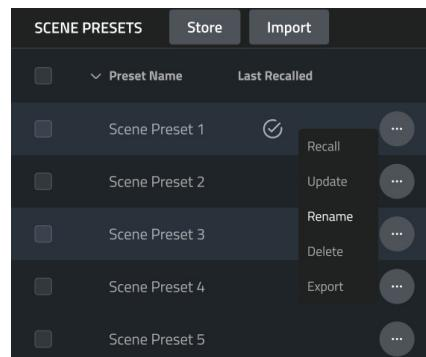

Figure 37: Managing single Scene
Click on the icon  next to the actual Scene Preset will bring up a menu allowing you to perform the following actions, see **Figure 37**.
- 1) First you recall the Scene Preset you would like to update, once the Scene Preset is recalled, there will be a "Check" icon next to the Scene Preset Name as shown in **Figure 37**.
- Click the "Check Box" on the left of the Scene Name, 3 action button will pop-up at the Bottom (Delete, Recall, Export), see **Figure 37**.